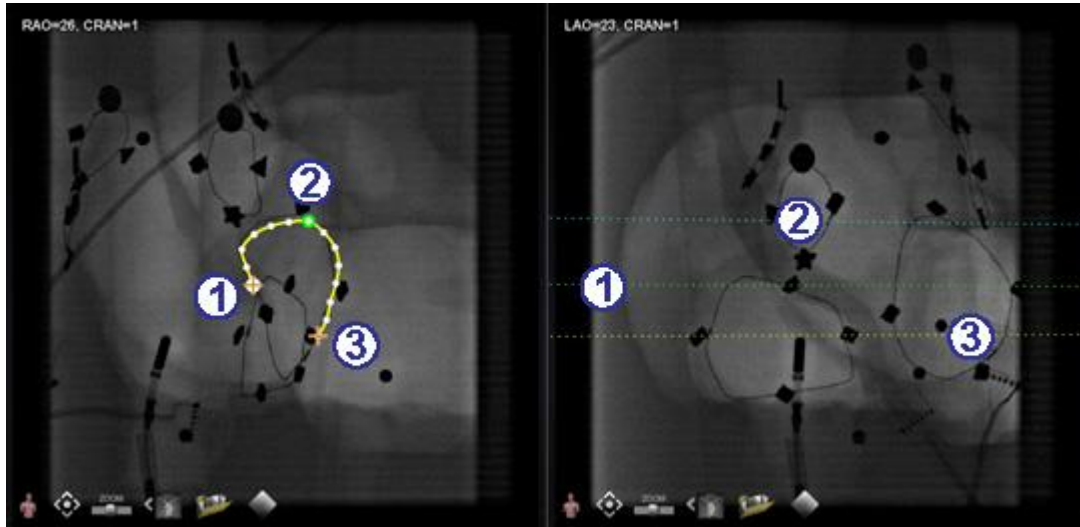

Figure 223. Proximal, selected, and distal points
- ① The green dotted line indicates the epipolar line of the proximal point. In **Figure 223**, the proximal anchor point has a solid circle behind the orange cross.
- ② The yellow dotted line indicates the epipolar line of the distal point.
Selected point guide (Figure 223)
- ① Proximal anchor point
- ② Selected point (Figure 223)
- ③ Distal anchor point